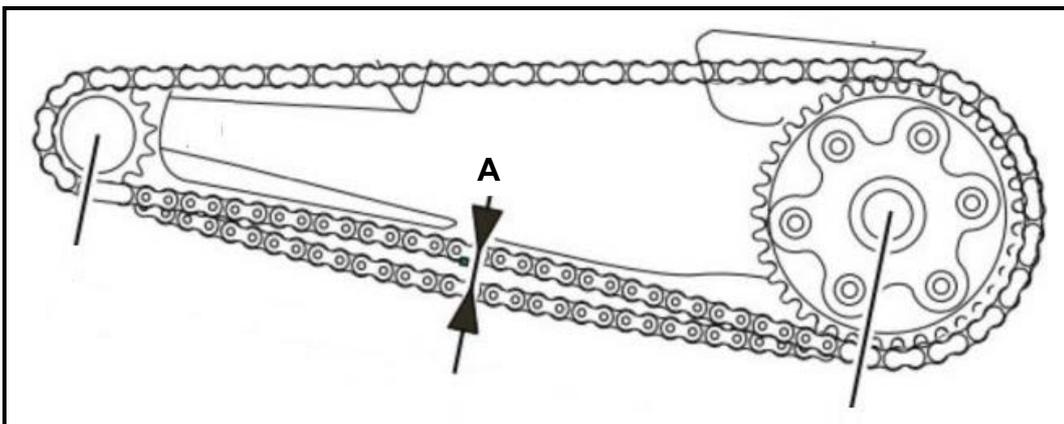

FIGURE 1.4
1.15 Which step in adjusting the tension in a chain of a chain drive is shown at point **A** in FIGURE 1.4?